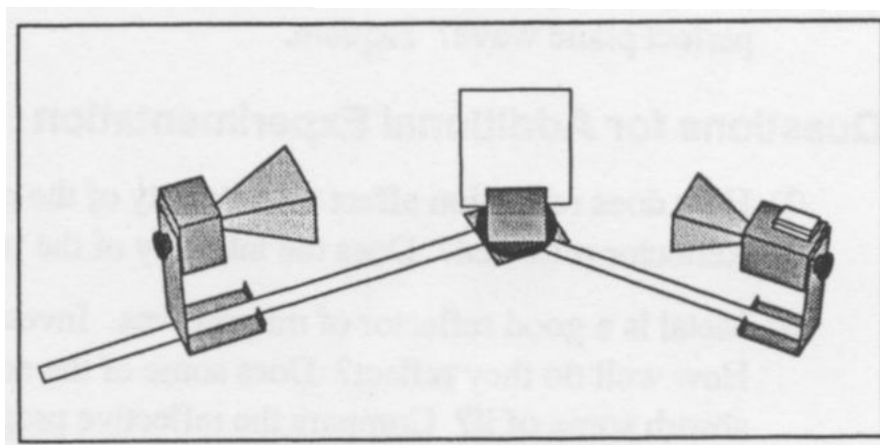

Figure 3: Setup to verify the principle of reflection.
5. Using a metal reflector, a rotating component holder, and the goniometer, verify that the law of reflection holds for microwaves, see Figure 3. Compare the relative reflectivities of the metal and wood reflectors. Is all the incident energy reflected? Is any energy absorbed?